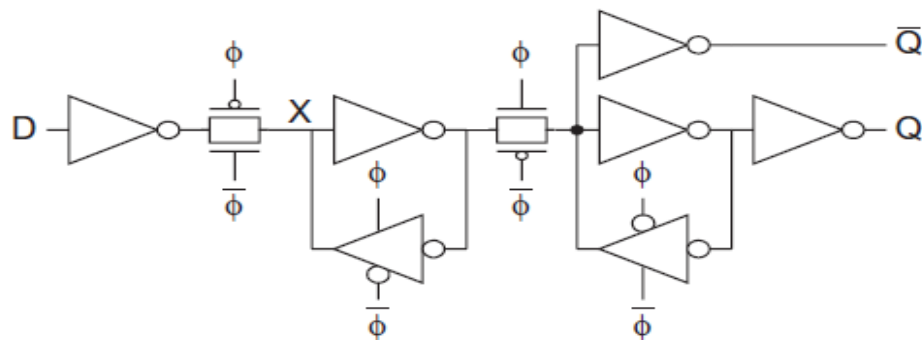

Fig.1
3. (50%) Design a static D register as shown in Fig.1 with propose size of NMOS and PMOS to have better t_{setup} , t_{pcq} , t_{pdq} and t_{hold} time. The loading of Q and Q-bar have 4 unit size inverters as loading. Both D and CLK has rise time and fall time of 0.1ns (0V-0.8V).